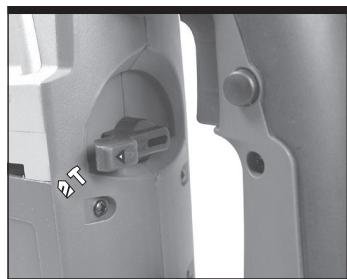

Fig 12
2. Adjust the lever selector to position “ $\text{A} \text{ T}$ ” to provide the hammer action (see Fig12)